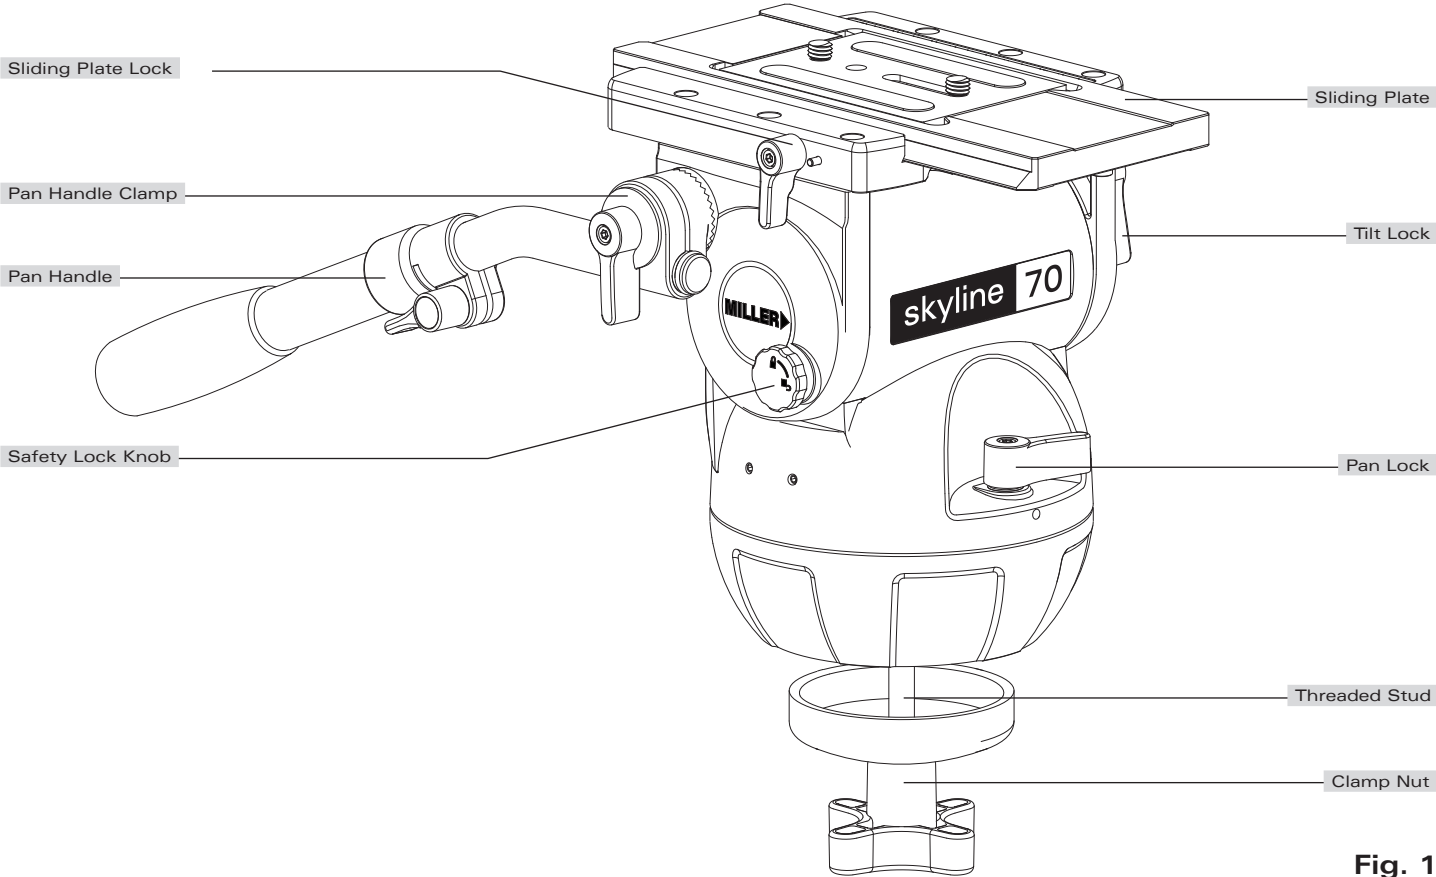

Fig. 1
- 1.3 Set the initial control settings as follows – see Figure 1 & 2: